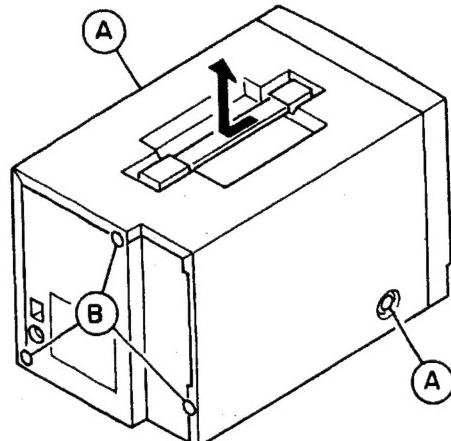

Fig. 1
- (1) Remove the 2 screws Ⓐ shown in Fig. 1.
- (2) Remove the 3 screws Ⓑ .
- (3) Slightly pull backward as shown by the arrow and remove the top cover.